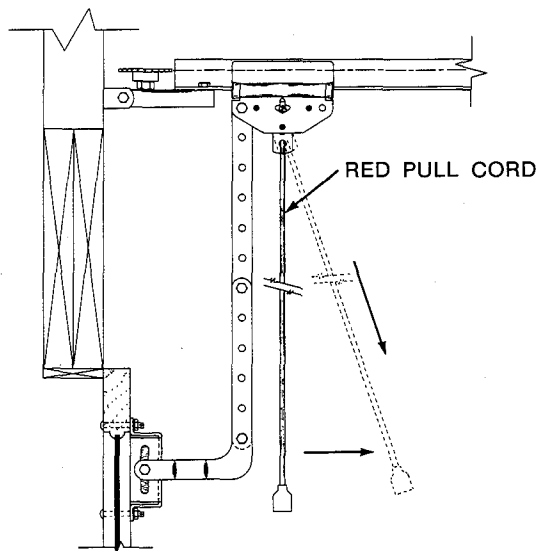

FIGURE 15.
- 20.) Emergency operation - To permit manual operation of door, pull red cord down and back releasing trolley arm from drive mechanism. (See Figure 15.) To reconnect trolley arm to drive mechanism, pull red cord downward. **NOTE:** Door must be raised a minimum of 12" from floor. Press push button to automatically reconnect.